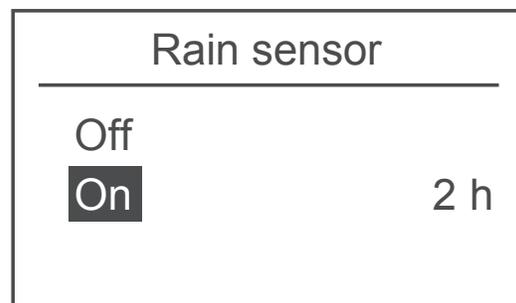

Fig. 35
**NOTE:** The default delay time is 2 hours as shown (Fig. 35). The time delay prevents lawn damage arising from cutting on wet lawn.